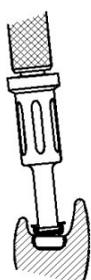

Fig. D4
11. Use the LOCATOR® Male Removal Tool attached to the LOCATOR® Core Tool to remove the Black Processing Replacement Male from the metal denture cap. The sharp circular edge on the end of the removal tool should be wedged tightly down into the very bottom of the Male so that it will catch the inside of the Male and pull it at an angle out of the metal housing (Fig. D4). To discard the Male from the tip on the Core Tool, point the tool down and away from you and tighten the Male Removal Tool clockwise back onto the Core Tool. This will activate the removal pin and dislodge the Male from the tip end of the Removal Tool.